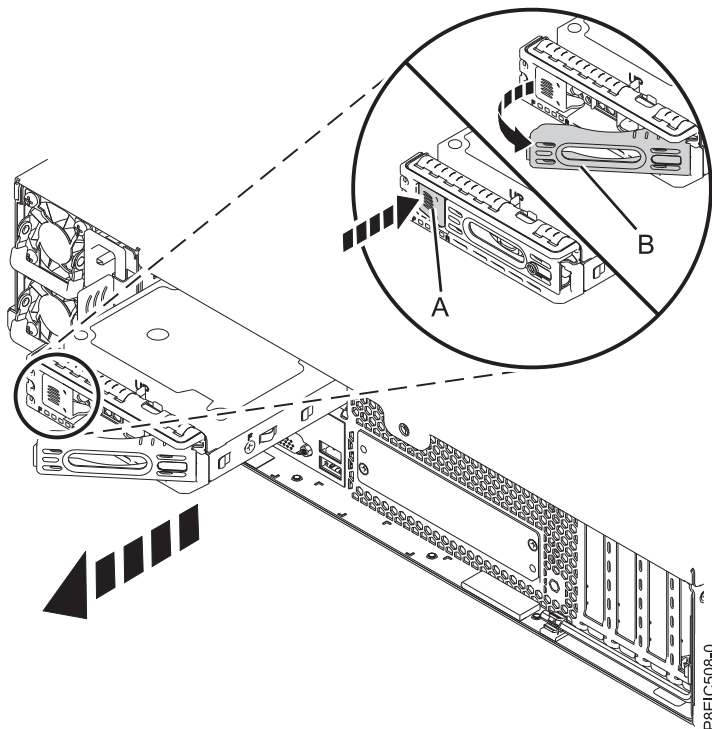

Figure 13. Removing a rear drive
3. Unlock the rear drive tray handle by pushing in the handle release (A). The handle then snaps out towards you. Pull the handle out all the way; if the handle is not fully open, the drive tray does not slide out of the system, as shown in Figure 13.